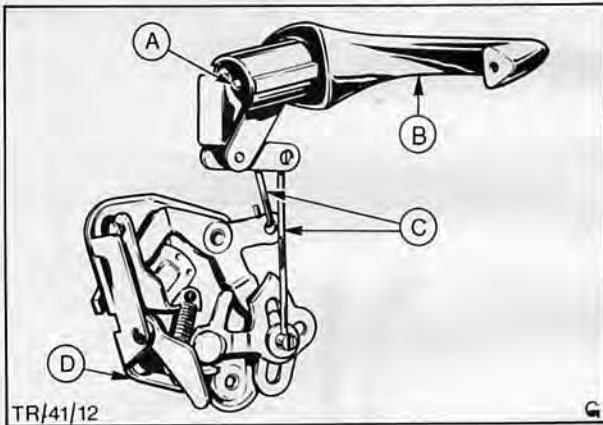
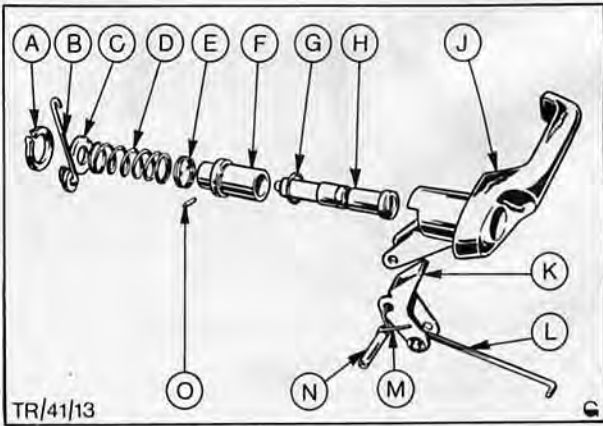

Fig. 18. Exterior handle and lock assembly
Fig. 19 Lock barrel assembly in door handle
NOTE: Where individual components have been itemised within this operation by a letter code without an accompanying Fig. No., they will automatically refer to Fig. 19.
1. Unhook and remove short and long lock control rods from crank arm, 'C' in Fig. 18.
2. Tap out pivot pin retaining crank arm to handle, (N) detach crank arm (K) and return spring (M).
3. Remove circlip A retaining lock barrel housing in handle and withdraw lock barrel, lock plate, spring and housing assembly from handle, Fig. 19.
4. Withdraw spacer washers from lock housing and prise return spring (E) from lock barrel.
5. Remove 'O' ring seal (G) from groove on housing.
7. Slide lock barrel into housing, insert pin (O) through housing and barrel to secure. Locate 'O' ring seal (G) in groove on housing.
10. Insert spring (D) and lockplate (C) into handle and secure with circlip, (A).
11. Refit crank arm (K) and return spring (M) to door handle and secure with pivot pin.
12. Refit control rods 'C' in Fig. 18, to their respective locations.